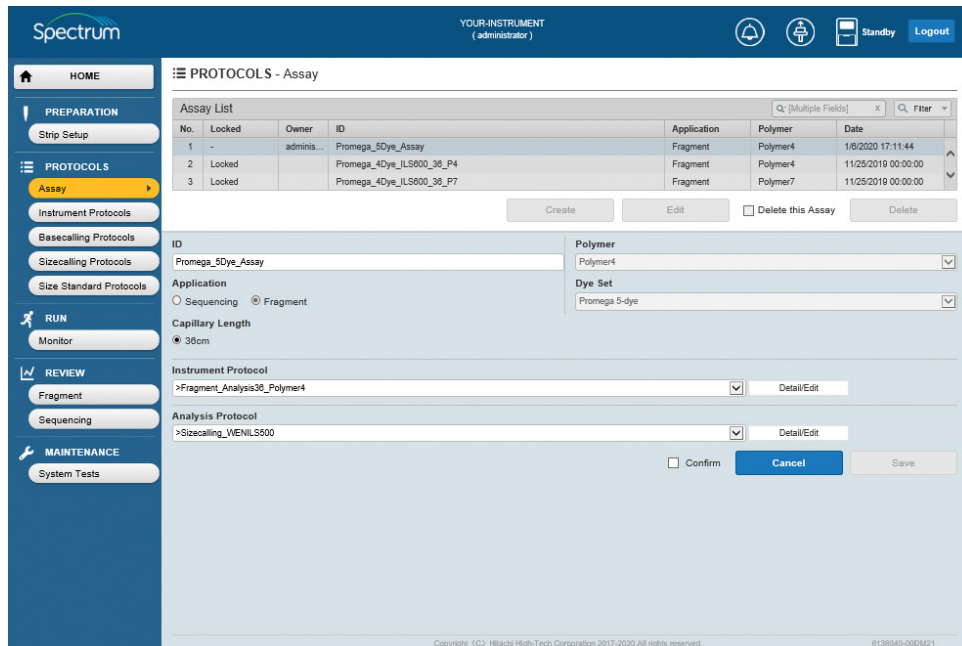

Figure 82. 'Assay' edit screen with active fields.
8. Select **Edit**. This will enable the ID field, as well as the **Instrument Protocol** and **Analysis Protocol** pull-down menus (Figure 82).